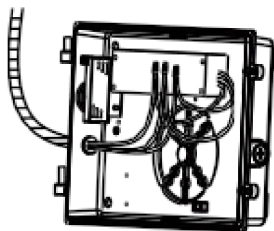

Fig. 16
9. Through the top terminal, connect the wire tube through the side hole to the L, N, and G wires on the power supply. (Fig. 16)